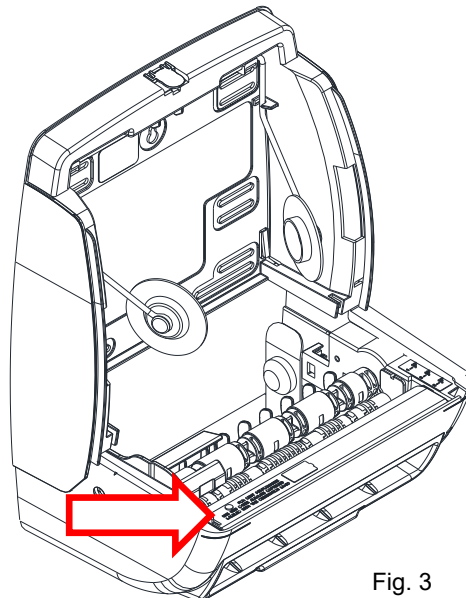

Fig. 3
3. If using mechanism for battery operation, install/re-install 8374 mechanism with four (4) 1/4"- 20 x 3/8" Philips pan-head screws through slots marked into tapped holes in cabinet back and continue onto step 4 below.
4. The battery compartment is located at the front lip of the mechanism (Fig. 3). The cover to the battery compartment is removed by pushing the left hand tab inward and lifting up.
5. Insert four (4) D-size, **alkaline** batteries labeled with an LR-20 designation as shown in the graphics engraved inside the battery compartment.